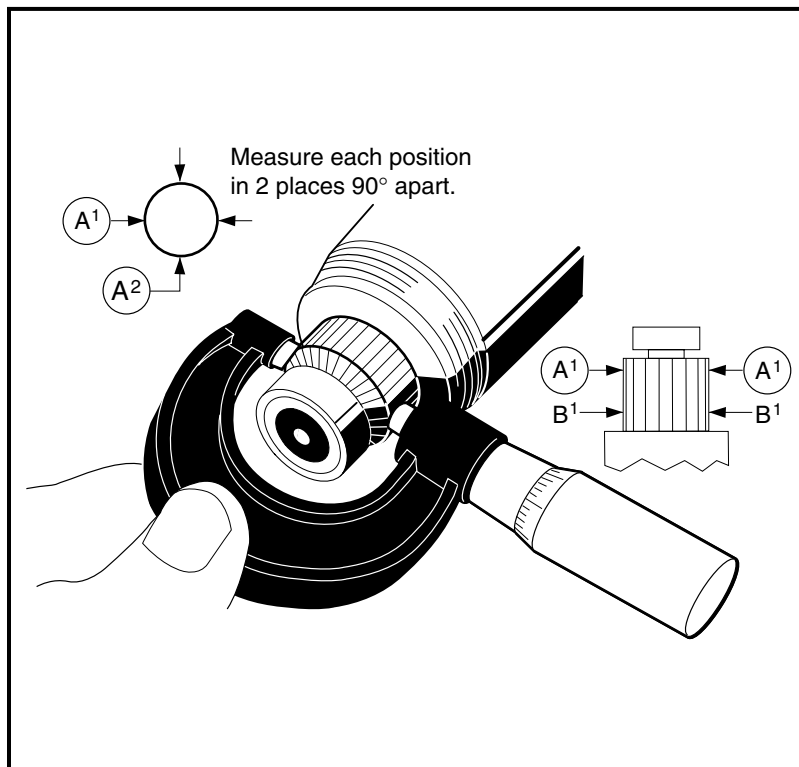

Figure 12b-12 Inspect Commutator
2. Using a micrometer, measure the outside diameter at four points: two points 90° to each other to the outside of the commutator (A¹ and A²), and two points 90° to each other to the inside of the commutator (B¹ and B²). If the commutator diameter is less than 1.535 inches (39 mm) at any of the four locations, replace the armature assembly and bearings (**Figure 12b-12, Page 12b-9**).